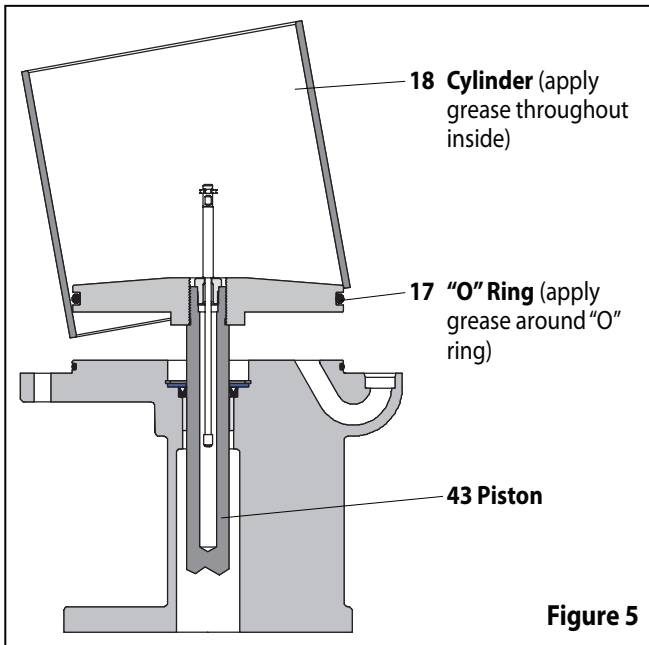

Figure 5
2. Place the (14) screw onto the (19) valve rod. The threaded end of the screw should be down, away from the threaded end of the valve rod.
3. While holding the (19) rod assembly below the threads with locking type pliers, clean threads with solvent and apply Loctite® 271™ to the threads and attach the (11) extension rod.
4. Place the (19) valve rod into the hole in the end of the (43) piston assembly and screw the (14) screw into the (43) piston assembly.
5. Thoroughly grease and install the (16) "O" ring in the (26) air motor base and bearing assembly.
6. Place the (25) "U" cup packing, (24) guide washer and (21) retaining ring in the (26) air motor base and bearing assembly.
7. Grease and install (13) "O" ring on the (41) lower gland.
8. Grease the bore in the (35) head assembly and insert (41) lower gland into the bore of the (35) head assembly with a twisting motion.
9. Align the bolt holes in the (41) lower gland and (35) head assembly and secure with four (40) screws.
10. Push the (43) piston assembly through the (25) "U" cup packing in the (26) air motor base and bearing assembly, being careful not to damage the "U" cup packing.
11. Thoroughly grease the inside of the (18) cylinder.
12. Apply grease to (17) "O" ring, then insert into the bottom of the (18) cylinder (see figure 5).
13. Push the (43) piston assembly to the top of the cylinder.
14. Thoroughly grease and install the (42 and 16) "O" rings in the (35) head assembly.
15. Thoroughly grease the two (36) "O" rings and install one on each end of the (44) tube.
16. Press the (44) tube into the counterbored hole in the (26) air motor base and bearing assembly.
17. Push the (11) extension rod through the (42) "O" ring in the base of the (35) head assembly.
18. Align and press the (35) head assembly down until the (18) cylinder and (44) tube are seated in the head assembly.
19. Insert the six (23) bolts down through the holes in the flanges of the (35) head assembly and the air motor base and bearing assembly.
20. Screw the six (22) nuts on the six (23) bolts. Alternately and evenly tighten the nuts.
21. Thoroughly grease and install the (9) "U" cup packing in the (10) adapter, with the lips of the packing down toward the thick flange of the (10) piston adapter.
22. Thoroughly grease and install the (38 and 13) "O" rings in the (7) upper gland.